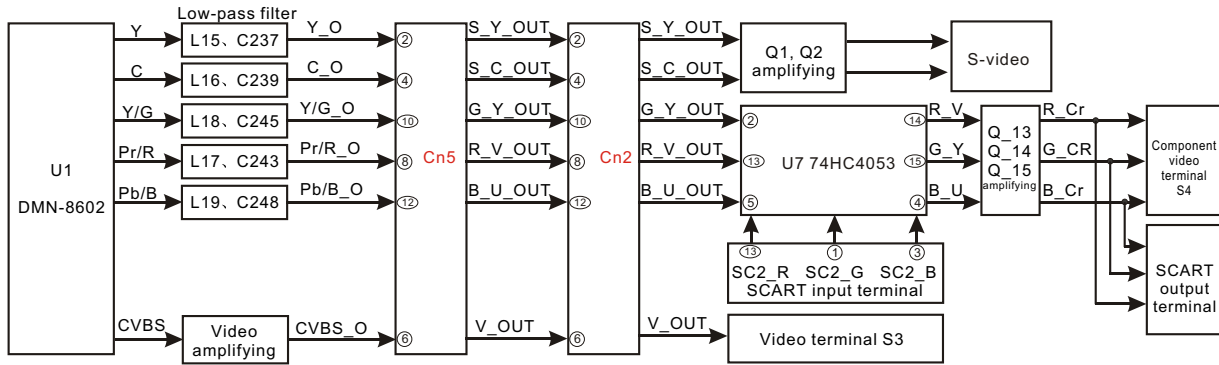

Figure 3.2.3.1 Video signal output flow chart
1. Video signal output flow chart is shown in the figure 3.2.3.1: